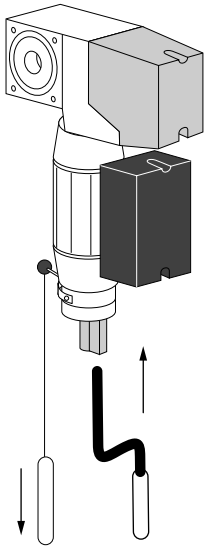

figure 2.3.1
- 2 insert the crank into the drive (see fig. 2.3.1), uncouple the engine brake and manually lower the doorplate completely.